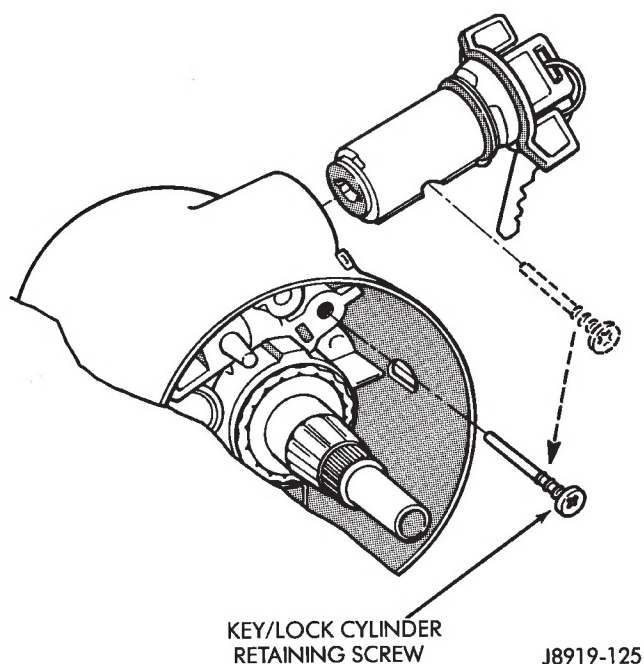

Fig. 25 Lock Cylinder Remove/Install
(31) Remove ignition lock cylinder retaining screw and pull lock cylinder out of column housing (Fig. 25)